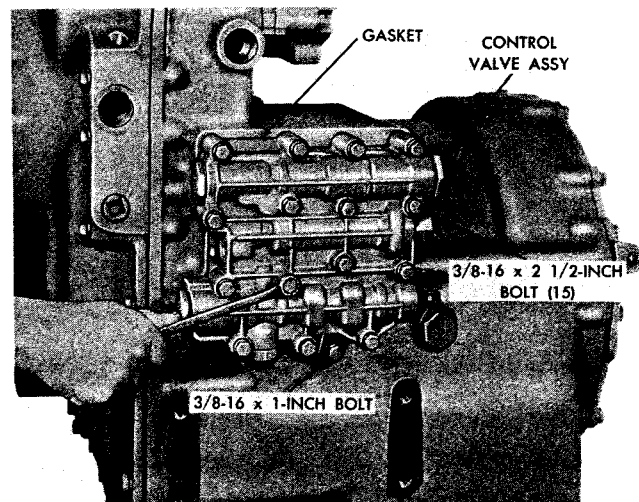

Fig. 7-44. Installing control valve body assembly bolts
(2) Install the control valve body gasket and retain it with oil-soluble grease (fig. 7-44). Install the control valve body